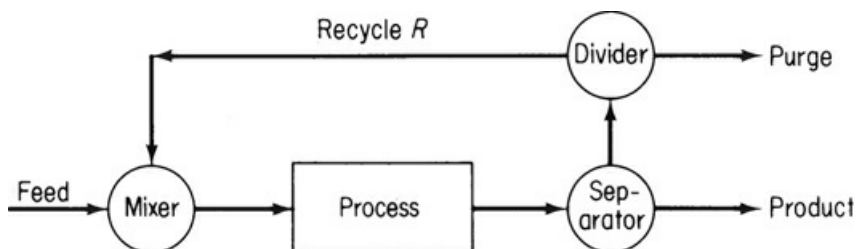

Figure 5.11 A process with a recycle stream with purge
- A **purge** stream is a stream bled off from the process to remove an accumulation of inerts or unwanted material that might otherwise build up in the recycle stream with time of operation (Figure 5.11).